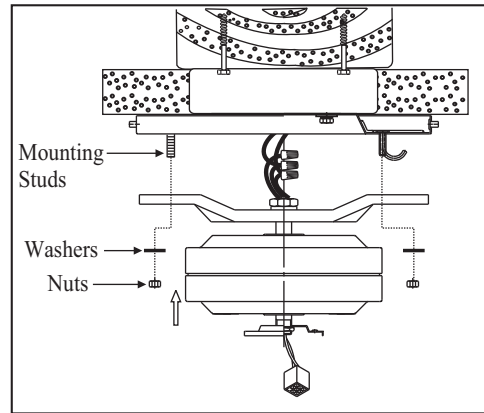

Figure 7
1. Move fan into position over the four mounting studs and secure with the provided washers and nuts (Fig. 7).